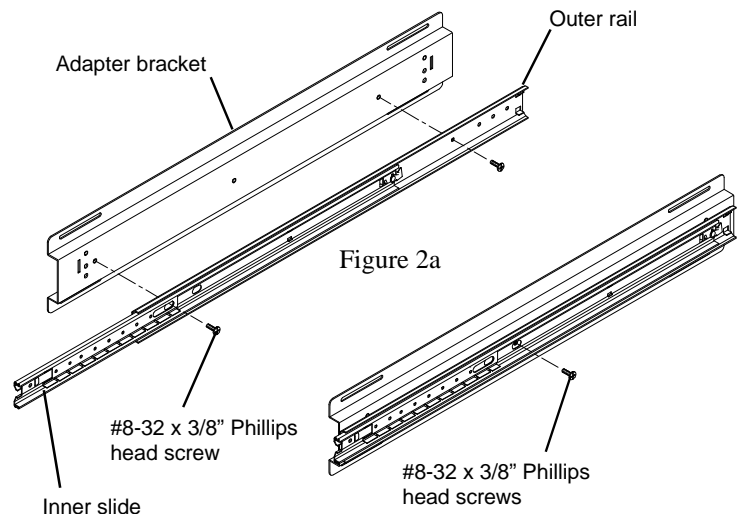

Figure 2b
3. Adjust the inner slide to access the other screw hole through the slotted opening in the inner slide. Use one more #8-32 x 3/8" Phillips head screw (provided by ALR) to fasten the outer rail to the bracket. See **Figure 2b**.